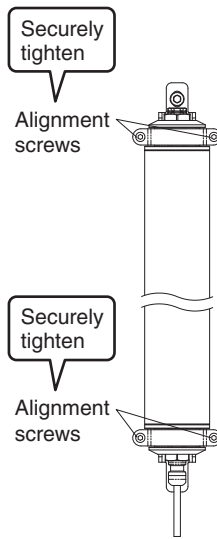

Fig. 5
5. Securely tighten the beam alignment screws to fix the sensor housing. The recommended torque to tighten these screws is 3.0 N•m (Fig. 5).